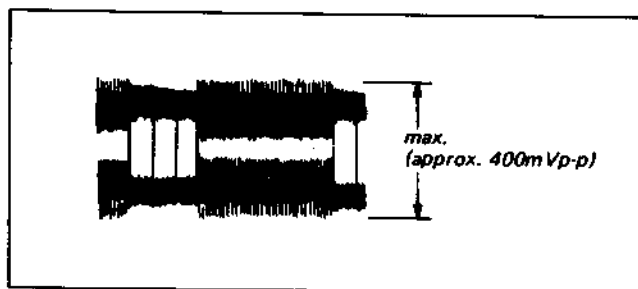

Fig. 4-8. RF output waveform
- (1) Playback the colour bar of the alignment tape.
- (2) Connect an oscilloscope to TP5 on the RF-4 board.
- (3) Adjust the tracking control so as to maximize the waveform amplitude (see Fig. 4-8).